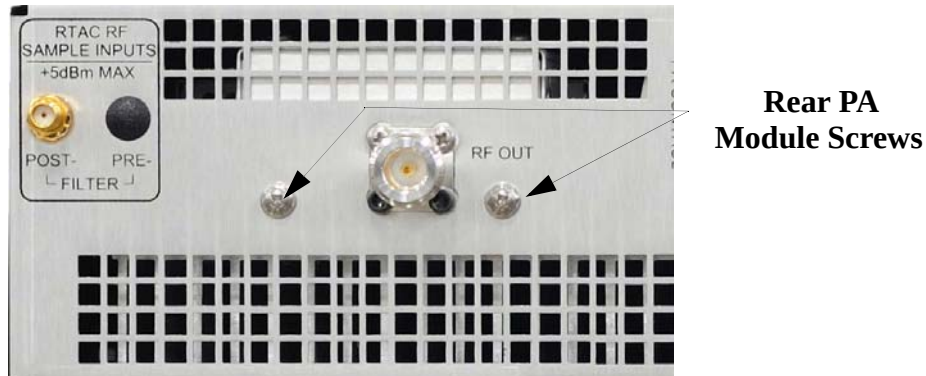

Figure 5-1 RF Output Connector
- STEP 3** See Figure 5-1. Remove the two screws from the rear panel on either side of the output connector.